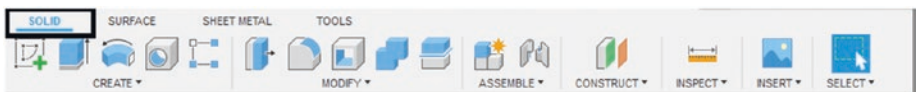

Figure 3-32. Go to the “SOLID” tab
1. Go to the “SOLID” tab in Fusion 360. See Figure 3-32.